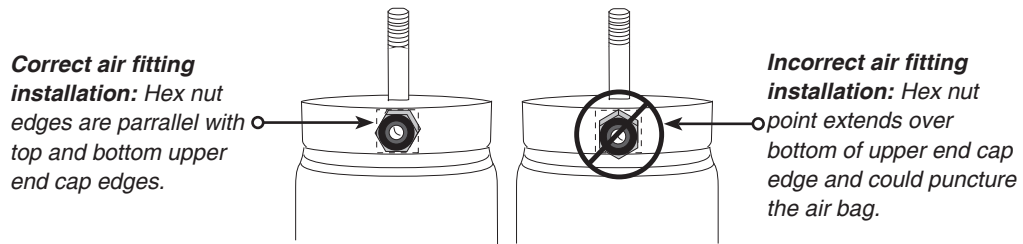

fig. 7
1. Prior to installing the strut, attach the air fitting (21851) provided to the threaded port at the top of the air spring (fig. 7). Seal with Teflon tape.